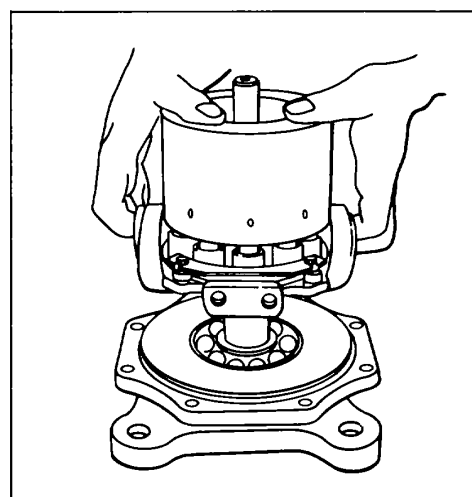

Figure 118.
11. Lift off rotating group consisting of parts (12, 18, 19, 20, 34, 37, 51, 52, 53, 54,) from mounting flange (2). See Fig. 118.